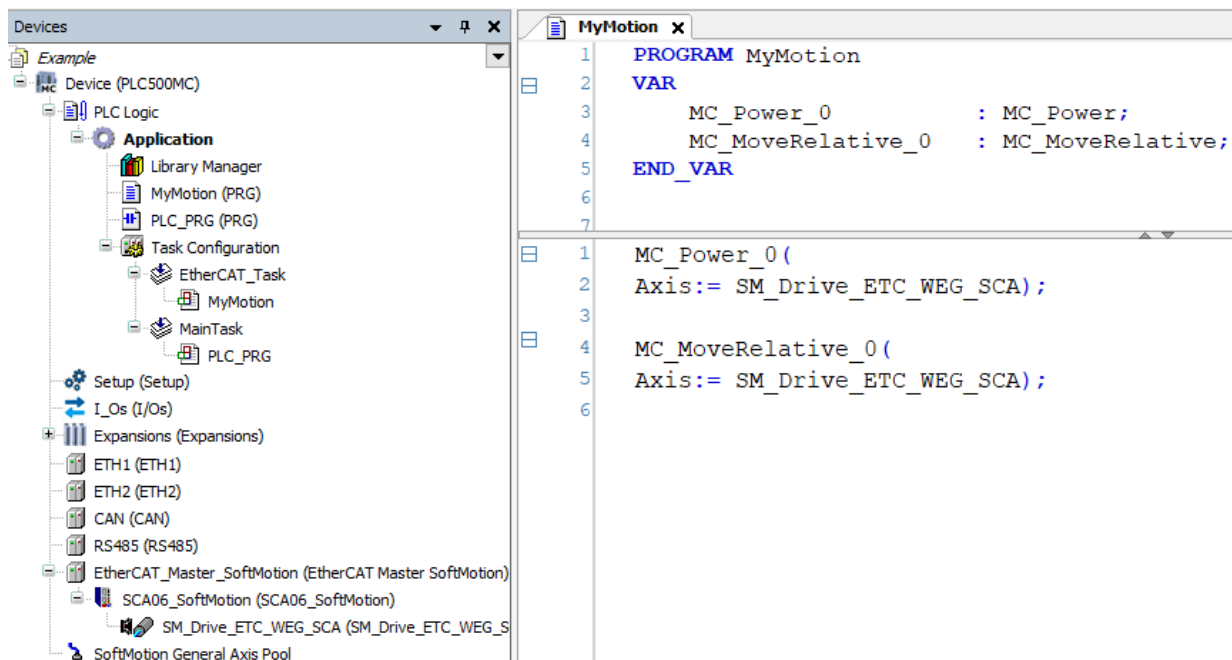

Figure 3.3: Add the *MyMotion* POU to the *EtherCAT_Task* task.
- Create a **MC_Power** instance and another **MC_MoveRelative** and reference the **Axis** input of the function blocks to the name of the axis created, as shown in Figure 3.3.